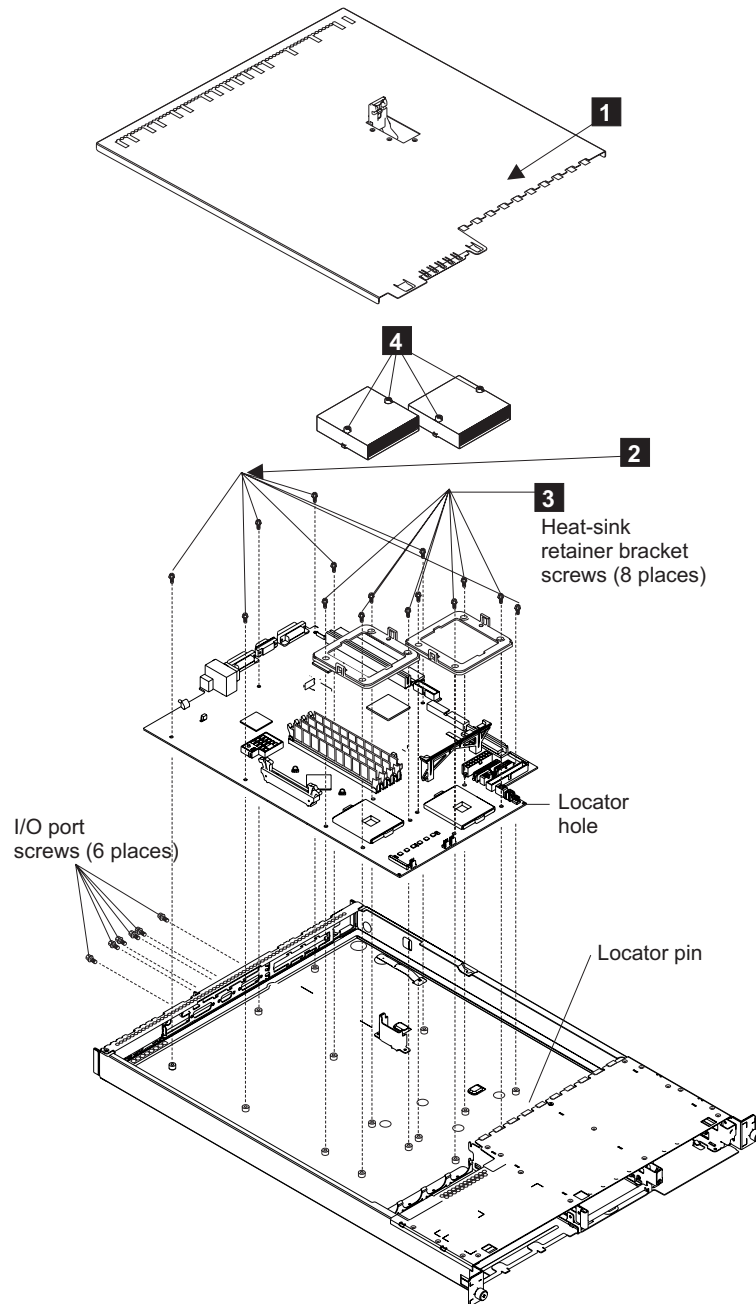

Figure 173. Removing the system board
3. Remove the top cover from the SAN Volume Controller **1**. See Figure 173 on page 437.
8. Unscrew the heat sink captive screws **4**. See Figure 173 on page 437.
10. Remove the screws from each of the heat sink retainer brackets **3**. See Figure 173 on page 437.
13. Remove the seven screws **2**. See Figure 173 on page 437.